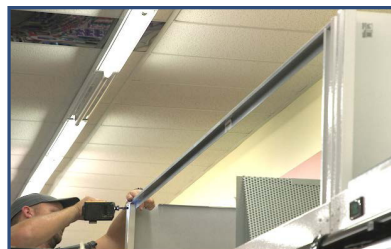

Fig. 87 Install unpainted frame rail
9. Attach the unpainted frame rail between adjacent panels (Fig. 87).